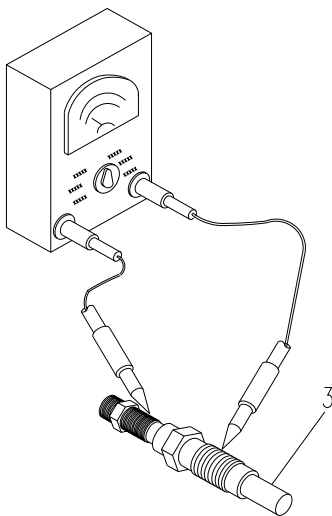

Figure 4-26. Glow Plug (Sheet 1 of 2)
- a. Remove three nuts (4, Figure 4-26) securing bus bar (6) to engine glow plugs (8).
- b. Tag and remove lead (5).
- c. Remove bus bar (6) and three washers (7).